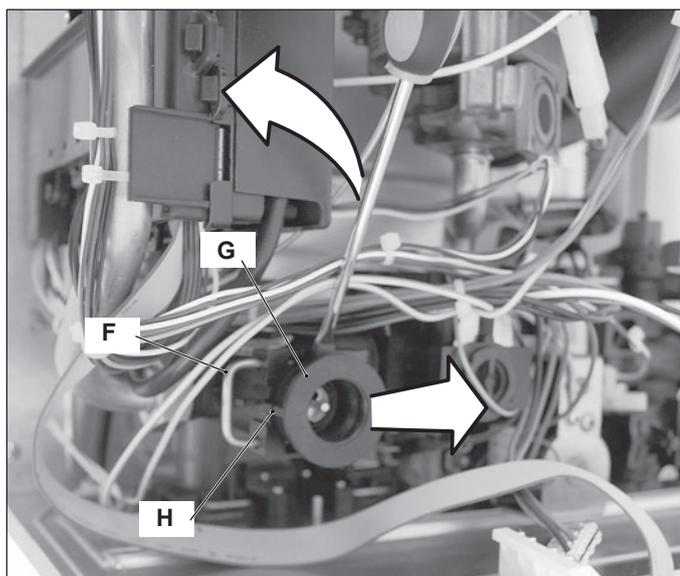

Figure 8.5
- 4 Remove the fixing spring F (Figure 8.5)
- 5 Remove the three way diverter valve G by levering with a screwdriver in as shown in Figure 8.5.
**Attention.** When reassembling the three way diverter valve be sure that the three way diverter is correctly oriented by matching the reference H with the notch of the water group Figure 8.5.